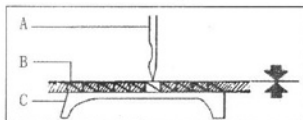

Fig. 21
30. Timing between needle and feed dog motion(Fig.21,22)
When needle point A reaches needle plate top surface B, feed dog surface C should be keep accordant on height (Fig.21) with needle plate top surface. It is the standard synchronous relationship. Adjustive method as below: